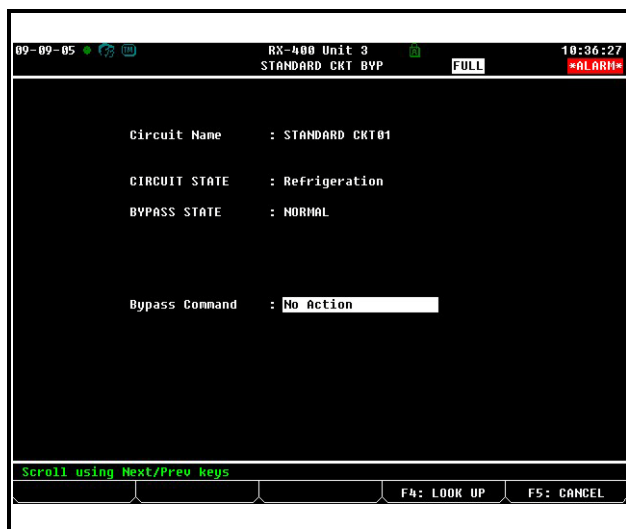

Figure 12-14 - Circuit Bypass Screen (RX-400 Version Shown)
- The Circuit Bypass screen (see *Figure 12-14*) will display the circuit name, its current state, and the bypass state. The **Bypass Command** field will be highlighted.